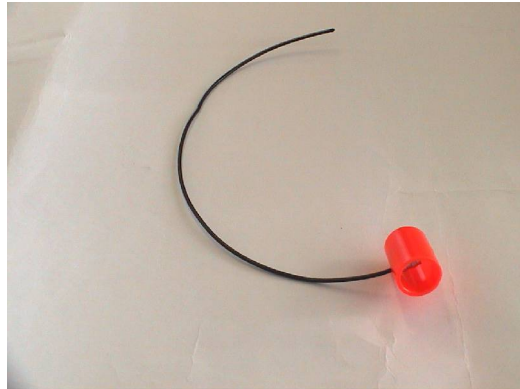

figure 5
6.5 The Ripcord Handle of the Main Canopy U – 065 (fig. 5)